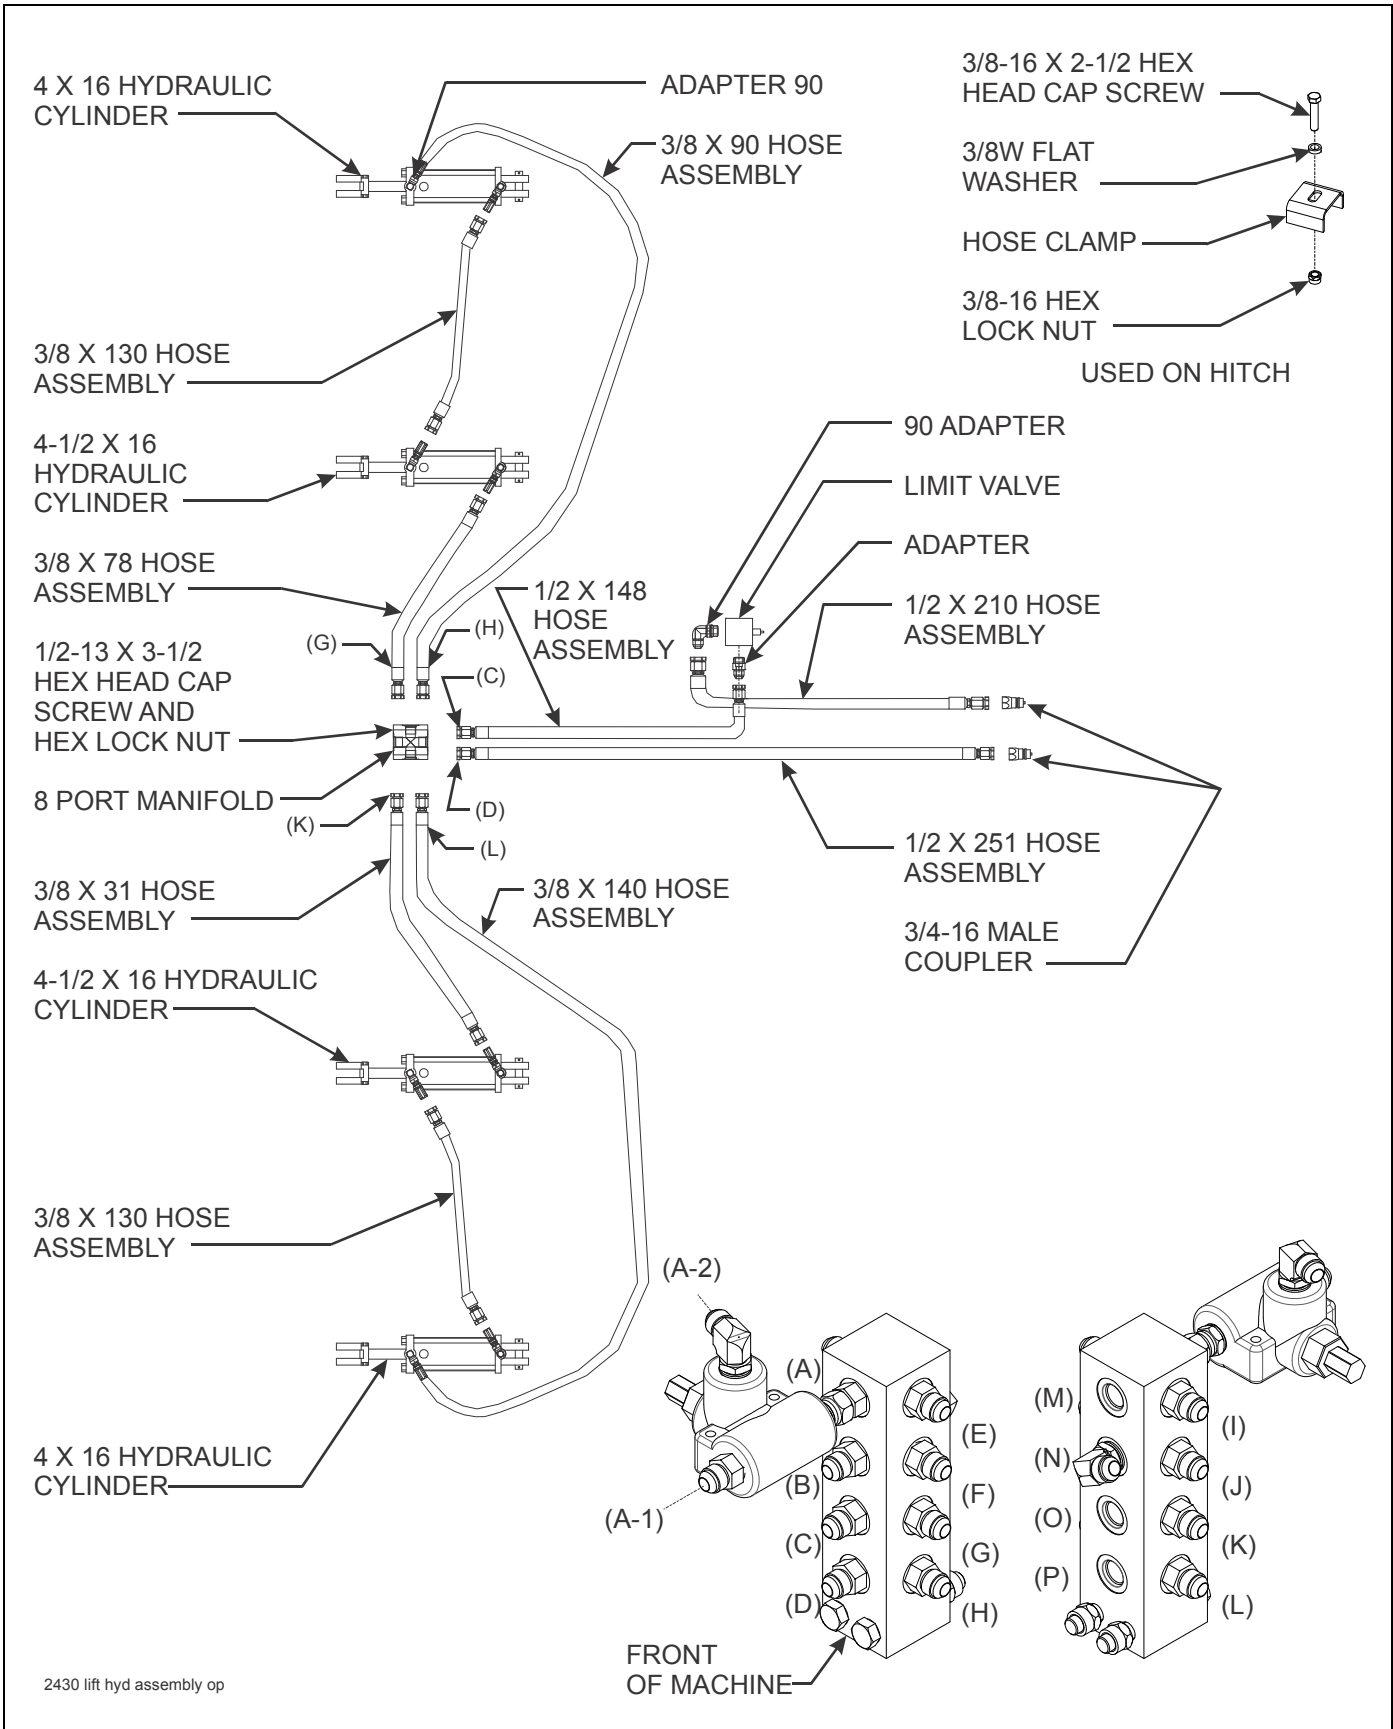

Figure 3-9: Hydraulic Lift Installation (2430-11-24 & 2430-13-24)
Refer to **Figures 3-9 through 3-11** for hydraulic diagrams for each model.
1. Install straight adapters and 90° adapter into relief valve as shown in **Figures 3-9 through 3-11**.
4. Install fittings into manifold according to **Figures 3-9 through 3-11**.